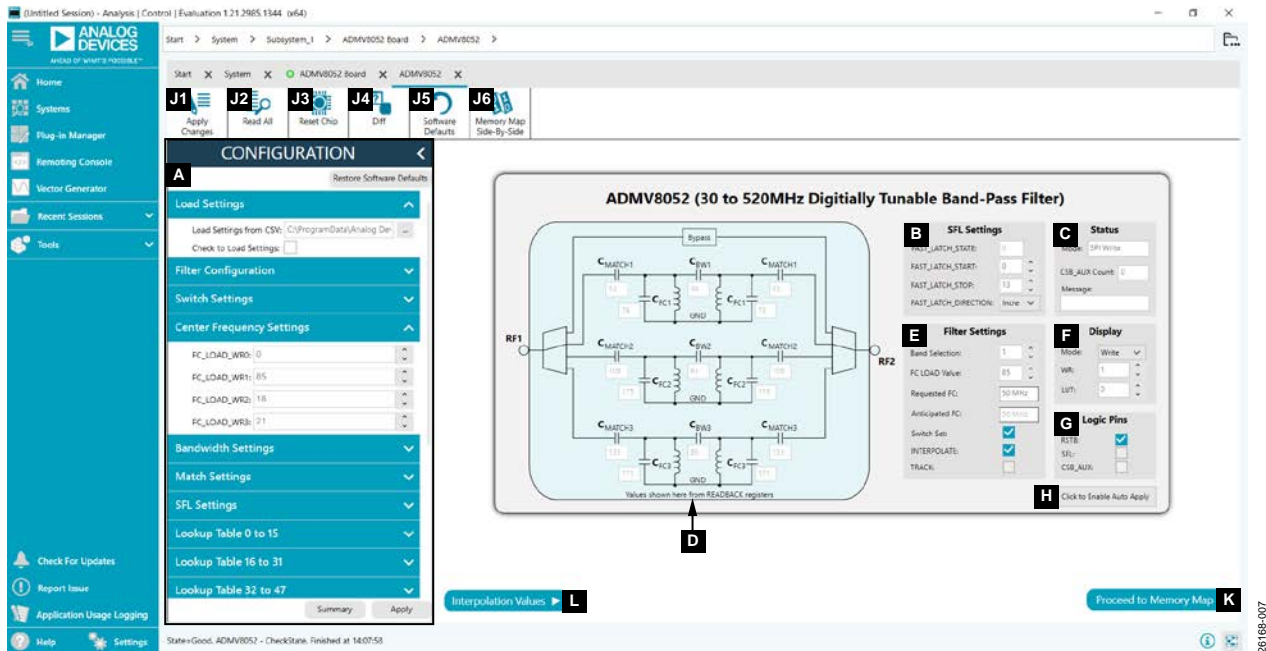

Figure 7. ADMV8052 Chip Plug-In with Labels
The full screen ADMV8052 chip plug-in with labels is shown in Figure 7. The labels correspond to items listed in Table 1, which describes the functionality of each section. For additional detailed programming, refer to the ADMV8052 data sheet.
Table 1. ADMV8052 Block Diagram Label Functions (See Figure 7)
A	<p>Use the CONFIGURATION section to initialize the ADMV8052-EVALZ.</p> <p>Load Settings from CSV: click the ... button to select which .csv file to load into the CONFIGURATION section.</p> <p>Check to Load Settings: once a file is selected, select this check box to load the .csv file contents into the CONFIGURATION section. Note that a check mark does not appear when the check box is selected.</p> <p>Filter Configuration: select the configuration settings for interpolation, tracking, or debug.</p> <p>Switch Settings: select the switch position settings for SPI write mode.</p> <p>Center Frequency Settings: select the center frequency settings for SPI write mode.</p> <p>Bandwidth Settings: select the bandwidth settings for SPI write mode.</p> <p>Match Settings: select the match settings for SPI write mode.</p> <p>SFL Settings: select the SPI fast latch (SFL) settings that are used when the chip is placed into the SPI fast latch mode.</p> <p>Lookup Table 0 to 15: define the configuration for lookup table (LUT)0 to LUT15.</p> <p>Lookup Table 16 to 31: define the configuration for LUT16 to LUT31.</p> <p>Lookup Table 32 to 47: define the configuration for LUT32 to LUT47.</p> <p>Note that following functions are not shown in Figure 7. Scroll down in the CONFIGURATION section to view these functions.</p> <p>Lookup Table 48 to 63: define the configuration for LUT48 to LUT63.</p> <p>Lookup Table 64 to 79: define the configuration for LUT64 to LUT79.</p> <p>Lookup Table 80 to 95: define the configuration for LUT80 to LUT95.</p> <p>Lookup Table 96 to 111: define the configuration for LUT96 to LUT111.</p> <p>Lookup Table 112 to 127: define the configuration for LUT112 to LUT 127.</p>
E	<p>The Filter Settings section shows several controls for configuring each filter band in the chip. Depending upon if INTERPOLATE is enabled, various controls can be visible.</p> <p>When INTERPOLATE is enabled (as shown in Figure 7), the following controls are visible:</p> <p>Band Selection: this numeric up and down box (0 to 3) is used to set the desired filter band. A value of 0 corresponds to the bypass configuration, and all other values correspond to the filter band number.</p> <p>FC_LOAD Value: this numeric up and down box (0 to 255) is used to set the desired center frequency value. Note that this is a unitless quantity, where a 0 corresponds to the lowest center frequency within a particular band, and 255 corresponds to the highest center frequency within a particular band.</p> <p>Requested FC: enter in a requested center frequency in this text box. The value entered is used to select the desired band of operation and compute the closest FC_LOAD Value for that frequency of operation.</p> <p>Anticipated FC: this text box is an estimation of the operating center frequency based upon the FC_LOAD Value.</p> <p>Switch Set: this check box determines if the input and output switches change.</p> <p>INTERPOLATE: this check box enables the interpolation functionality on the chip.</p> <p>TRACK: this check box enables filter tracking, whereby when the capacitor codes of one filter are changed, the other two non-selected filter capacitor codes are also set to the same values.</p> <p>When INTERPOLATE is disable (not shown in Figure 7), the following controls are visible:</p> <p>Band Selection: this numeric up and down box (0 to 3) is used to set the desired filter band. A value of 0 corresponds to the bypass configuration, and all other values correspond to the filter band number.</p> <p>FC_LOAD Value: this numeric up and down box (0 to 255) is used to set the desired center frequency capacitor code.</p> <p>BW_LOAD Value: this numeric up and down box (0 to 255) is used to set the desired bandwidth capacitor code.</p> <p>MATCH_LOAD Value: this numeric up and down box (0 to 255) is used to set the desired input and output match capacitor code.</p> <p>Switch Set: this check box determines if the input and output switches change.</p> <p>INTERPOLATE: this check box enables the interpolation functionality on the chip.</p> <p>TRACK: this check box enables filter tracking, whereby when the capacitor codes of one filter are changed, the other two non-selected filter capacitor codes are also set to the same values.</p> <p>READBACK Values --> Filter Settings: this button is available when interpolation is disabled. Click this button to populate the read back values from the hardware into the FC_LOAD, BW_LOAD, and MATCH_LOAD values.</p>
If a reset of the ADMV8052 chip is required on the ADMV8052-EVALZ, click **Reset Chip** (see Figure 7 and Label J3 in Table 1 for additional information). This automated sequence performs the following actions:
- The RST pin can also be pulled low from within the **ACE** software by unchecking the **RSTB** check box in the lower right corner of Figure 7 (see Label G). When using this option, be sure to click the check box again to return the RST pin high.